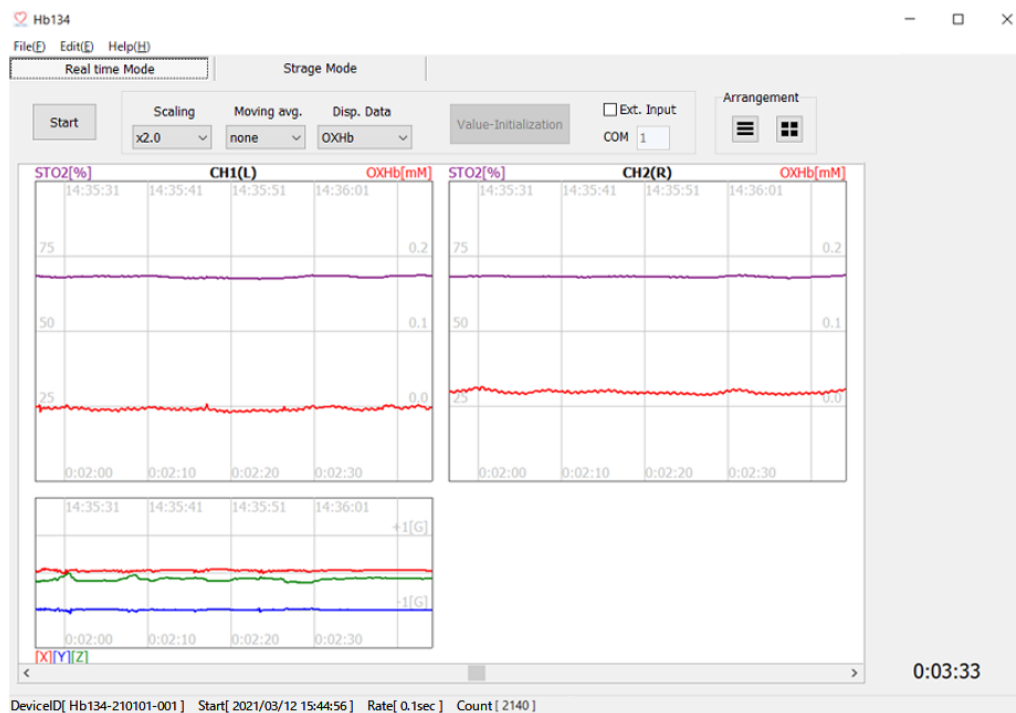

Figure 3. Trend graphs (Vertical)
- (6) Click “End” to terminate the measurement. A dialog will appear to save data. Choose a location and name for the file. You can save data also from “File” tab in the upper left (Figure. 3).